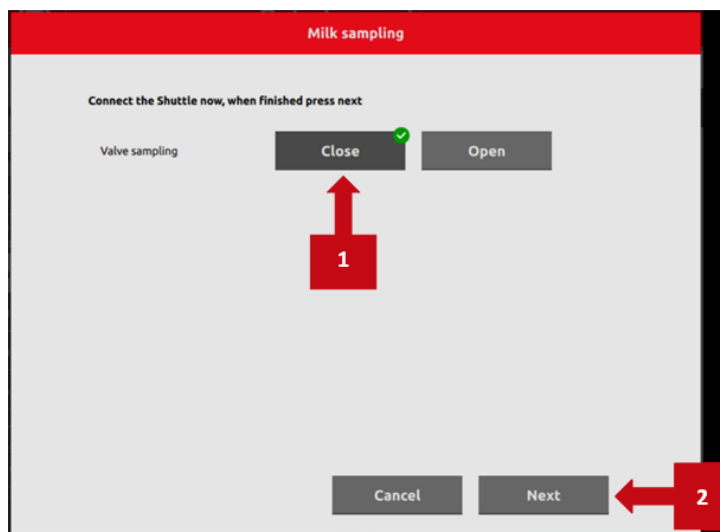

Figure 31. Milk sampling menu
5. In the menu Milk sampling, Click on Close and Next, see the figure 31